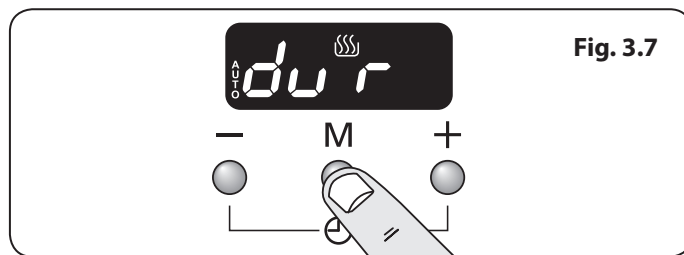

Fig. 3.7
- Press the mode [M] button until the display flashes 'dur' (**Fig. 3.7**). Then set the 'cook period' using the [+] or [-] buttons.